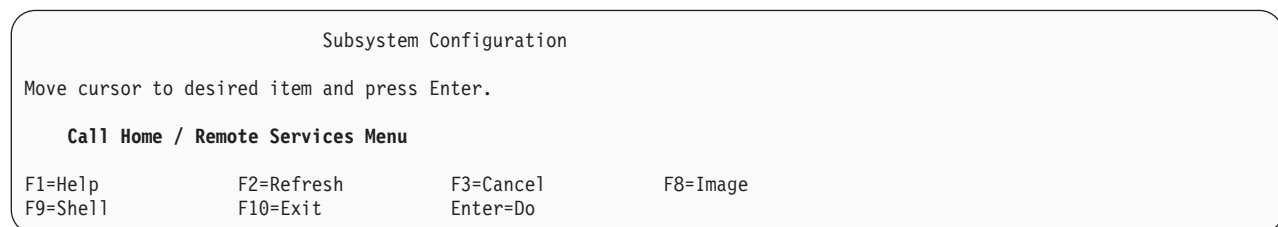

Figure 2-113. Subsystem Configuration Menu – Call Home / Remote Services Menu
- At Figure 2-113, select **Call Home / Remote Services Menu**, and press **Enter**.
Attention: Select the illustrated line item only at **Figure 2-113**. No other menu display items are applicable for this process.